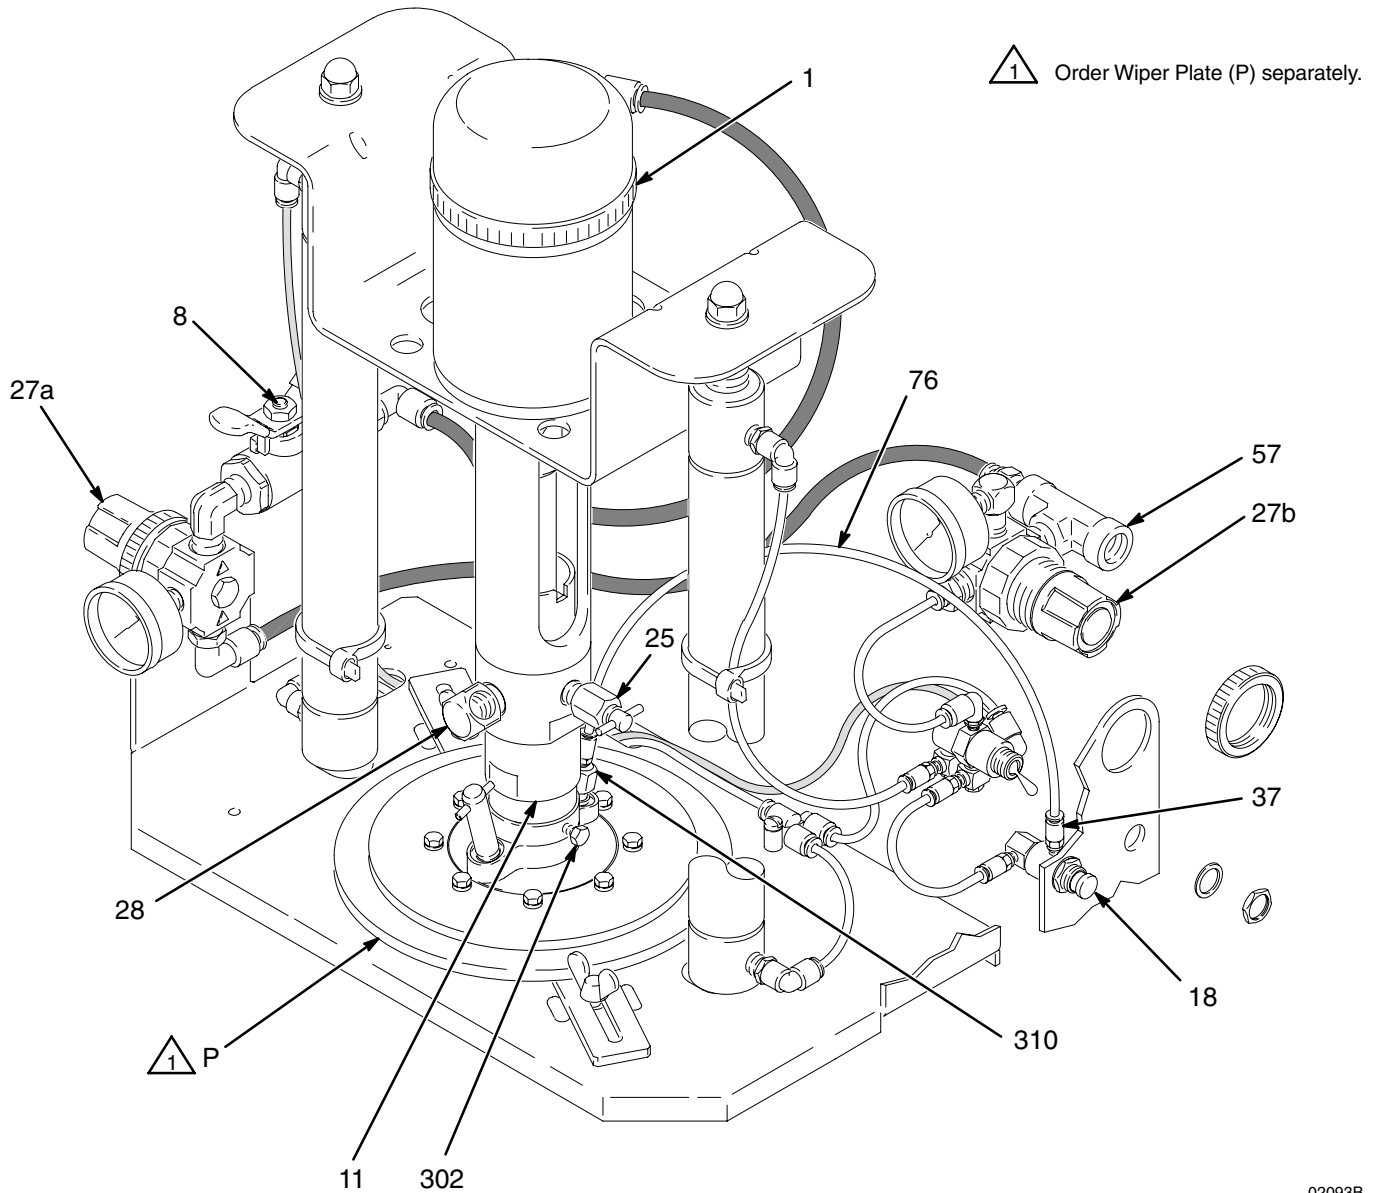

Fig. 2
2. Read the section **System Components and Accessories** on page 9. Connect an air supply hose to the 1/4 npt(f) main air inlet fitting (57). See Fig. 2.
3. Unpack the wiper plate (P). Back out the screws (302) so they will clear the pump intake housing (11). Raise the ram by setting the ram director valve switch (36) to the UP position and increasing the setting of the ram air regulator (27b).
4. Place the wiper plate (P) on a 2 in. thick x 4 in. wide block of wood. Center the wiper plate and the wood block on the base, under the pump intake housing (11).
5. Set the ram air regulator (27b) to zero. Set the ram director valve switch (36) to the DOWN position. As the ram unit slowly falls, guide the pump intake housing (11) into the wiper plate (P).
6. Set the ram air regulator (27b) to 0.07 MPa, 0.7 bar (10 psi). Push down on the pump to install the wiper plate (P) onto the intake housing (11). Secure the wiper plate to the pump with the two screws (302).
7. Connect the 660 mm (26 in.) air line tube (76) from the connector (37) at the air assist valve (18) to the connector (310) at the wiper plate (P). Refer to **Connecting and Disconnecting Tubes**.
System Accessories (See Fig. 2)